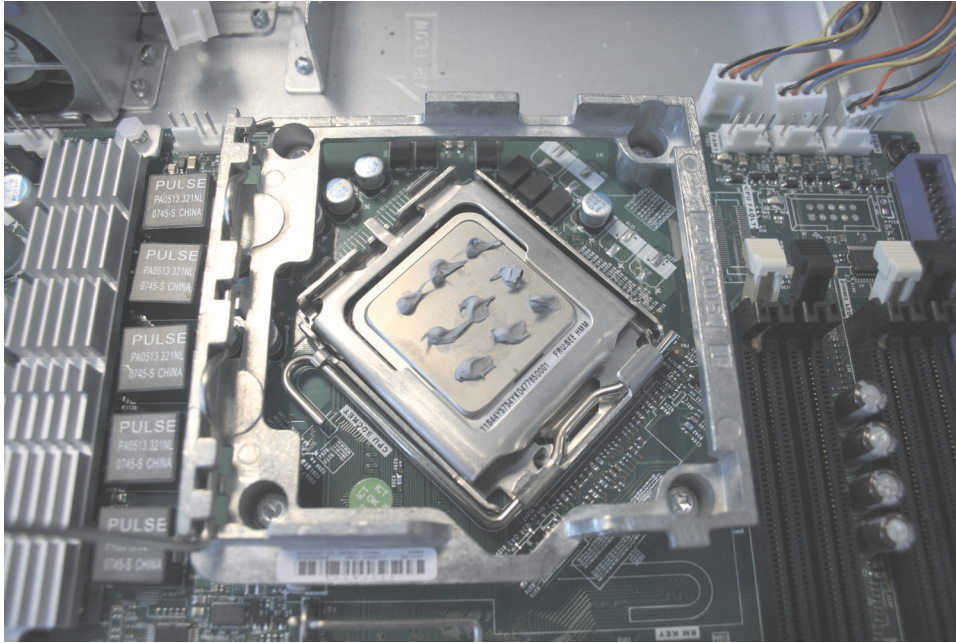

Figure 265. Complete set of nine thermal grease dots on the SAN Volume Controller 2145-8A4 microprocessor
- d. Apply thermal grease to the top of the microprocessor, as shown in Figure 265 on page 263. Apply nine dots of thermal grease in three rows of three dots each with the outer rows approximately 5 mm from the edge of the microprocessor. The diameter of the cap from the thermal grease syringe is 5 mm, so you can use it to judge the required position of the dots of thermal grease